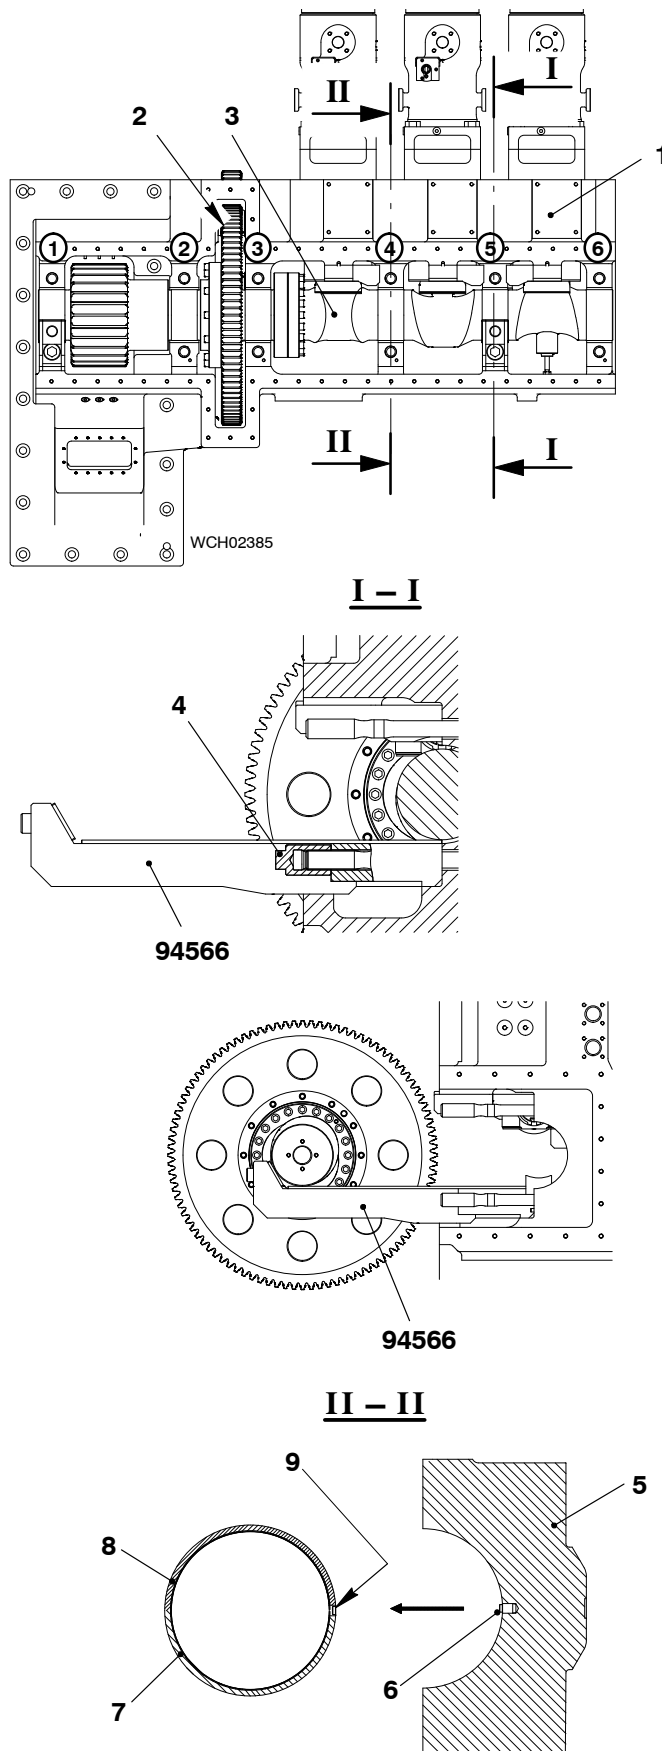
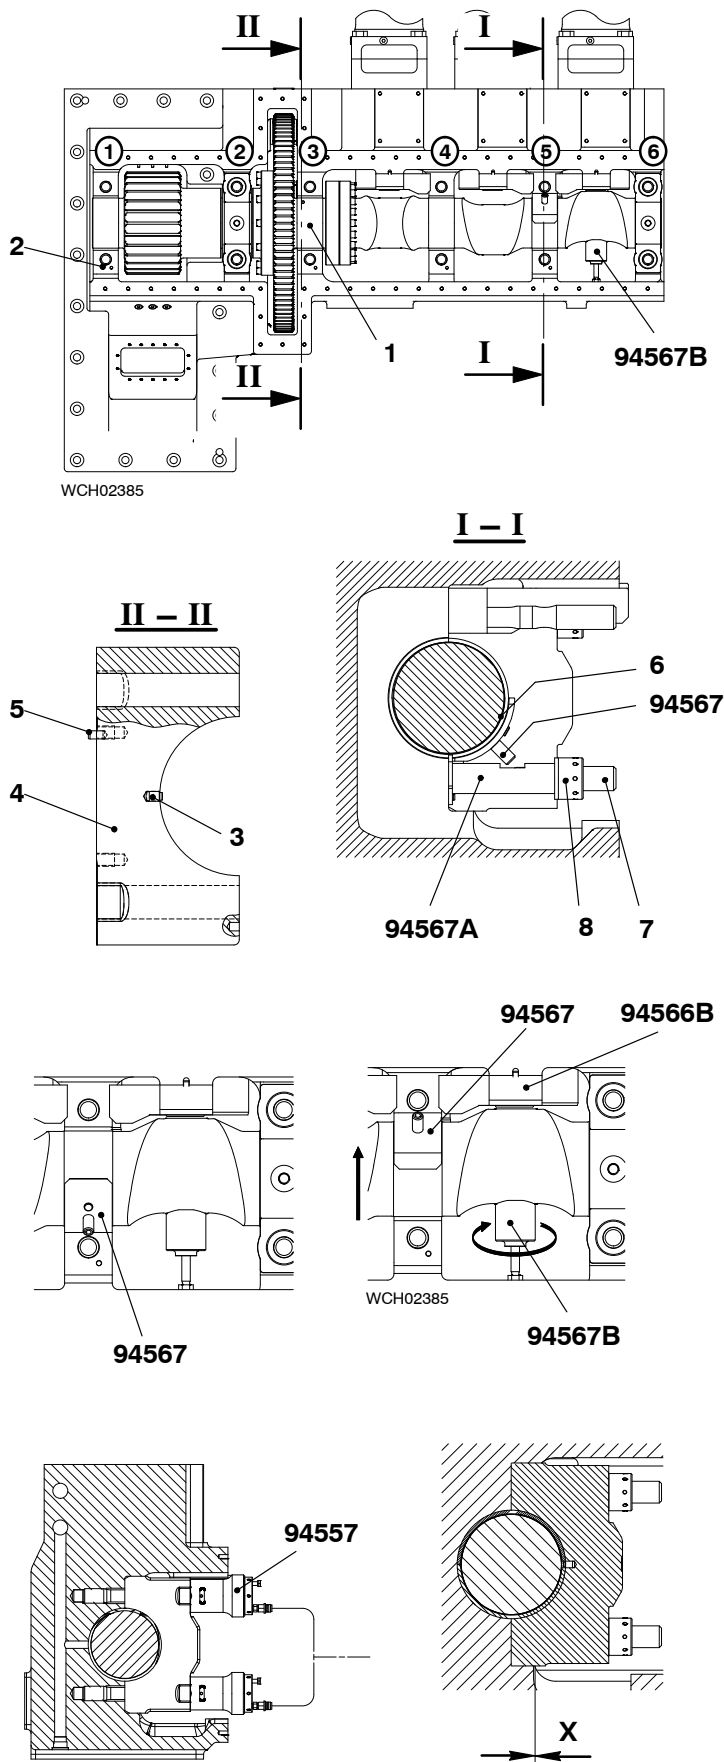

Fig. 4
Fig. 5
- 1) Put the two supports (94566) in the positions at No.1 and No.5 (Fig. 4).
- 2) Tighten the nuts (4) on the two supports (94566).
- 6) Carefully move the camshaft (3, Fig. 4) and the gear wheel (2) on to the two supports (94566).
- 7) Make sure that the camshaft (3) and gear wheel (2) do not move.
- 7) Put the screwjack (94567B, Fig. 5) in position.
- 9) Put the assembly template (94567A) on the bottom elastic bolt (7).
- 10) Put the round nut (8) on the elastic bolt (7). Tighten the round nut with your hand.
- 11) Put the top bearing shell (6) in position on the camshaft.
- 13) Use the assembly template (94567) to turn the bearing shells (7, 8 Fig. 4) up to 90°.
- 17) Make sure that the pin (3, Fig. 5) is in the bearing cover (4).
- 18) Attach the bearing cover (4).
- 19) Put the round nuts (8) on the elastic bolts (7).
- 23) Put the bearing cover (4) that has the dowel pin (5) on to position No. 3.
- 24) Install the tool (94557) on to the elastic bolts (7) (refer to 9403 4).
- 25) Tighten the round nuts (8) to the value specified in 9403 4.
- 26) Make sure that there is no clearance at (X).